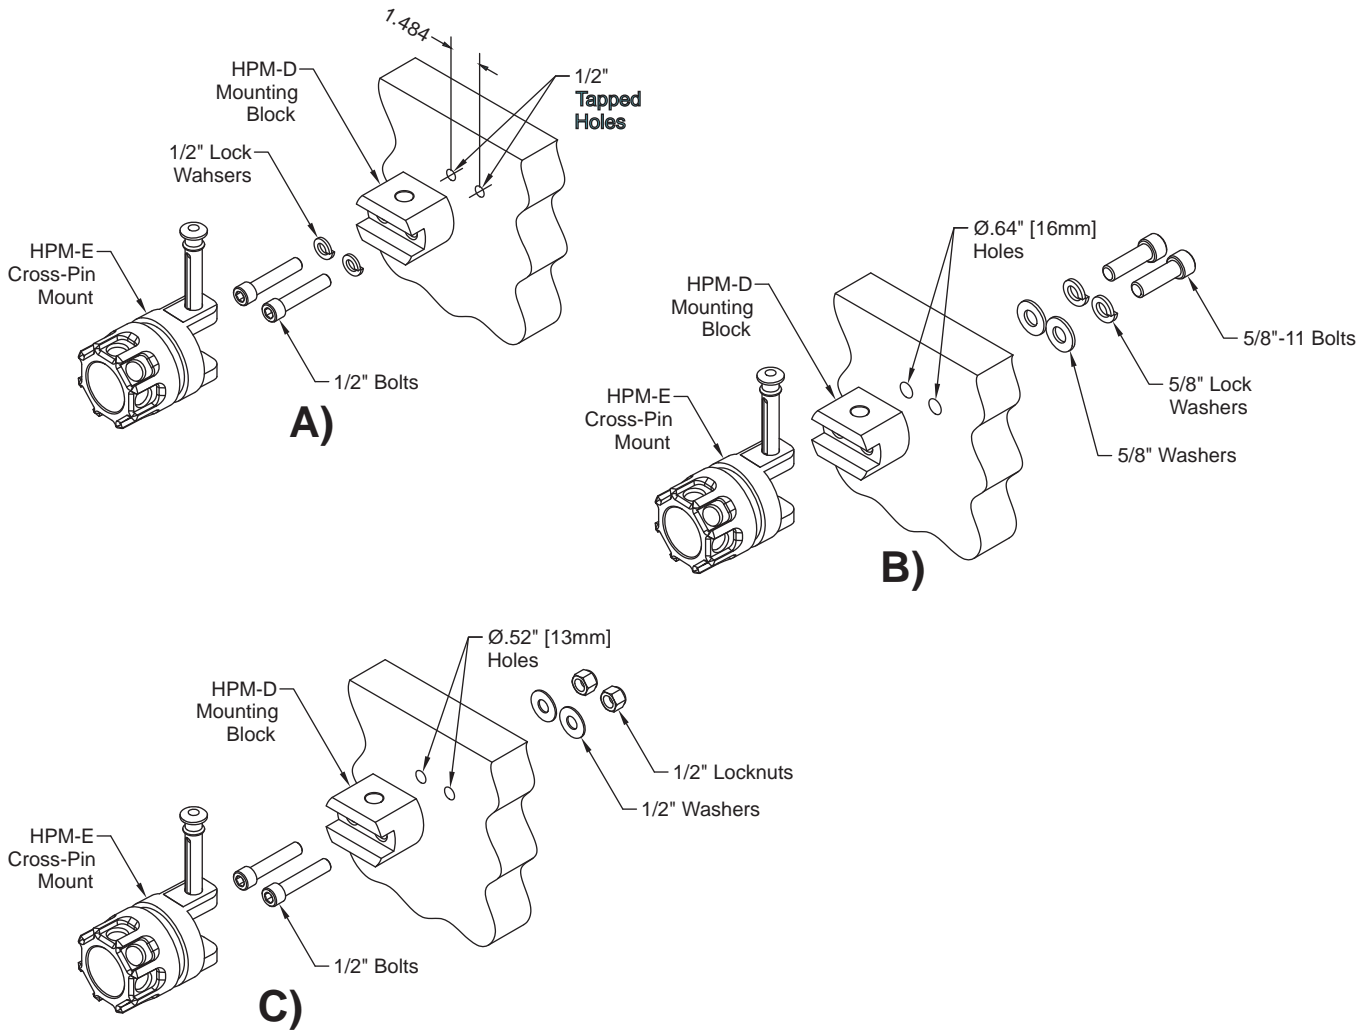

Figure 2.11 Mounting block installation options
A mounting block can be used as a fixed mount, for flowing, or as a storage bracket for the Hemisphere monitor. This mount can be used in locations where the back side of the mounting surface is inaccessible. It can be bolted from the front of a sufficiently rigid surface by adding two 1/2" [13mm] tapped holes (See figure 2.11 a.) It can also be bolted from the back side of a surface, by drilling two (2) .64" [16mm] clearance holes (See figure 2.11 b.) and screwing two (2) 5/8"-11 bolts into the tapped holes on the bracket. A third option would be to drill two (2) .52" holes, and bolting the mounting block from the front side with 1/2" bolts, washers, and locknuts (See figure 2.11 c.)
A cross-pin mount can be added to a mounting block to create a monitor-ready attachment location (See Figure 2.11.) It is the same mount base that is included with the I-beam clamp/2" hitch mount, with the same detented cross-pin, and can be ordered as a spare or replacement.